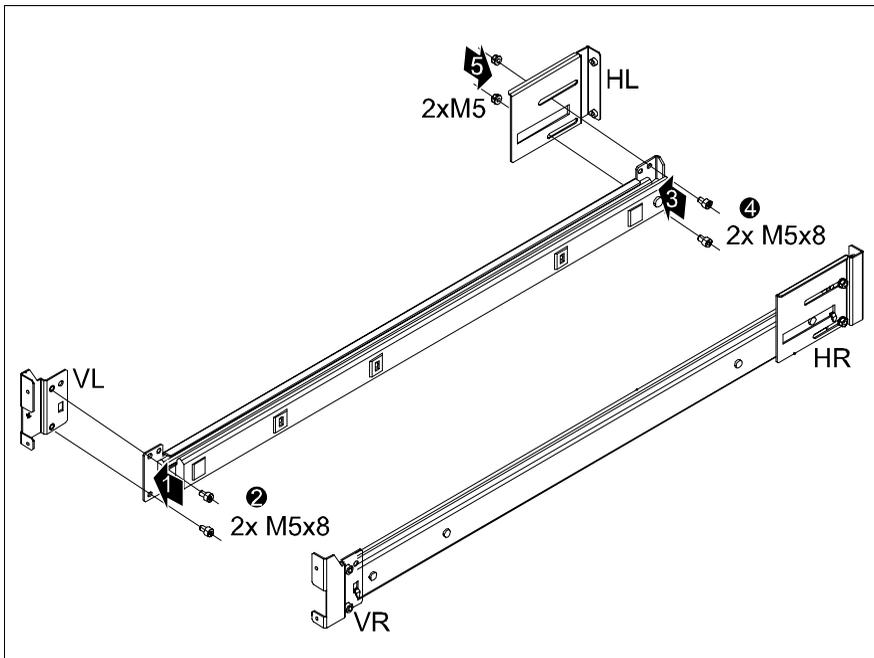

Figure 7: Prepare the telescopic rails
- ▶ Fasten the delivered assembly bracket VL on the front end of the left telescopic rail (1) with two screws M5x8 (2) as shown in figure 7.
- ▶ Fasten the delivered assembly bracket HL on the rear end of the left telescopic rail (3) with two screws M5x8 (4) and two hexagonal flange nuts M5 as shown in figure 7.